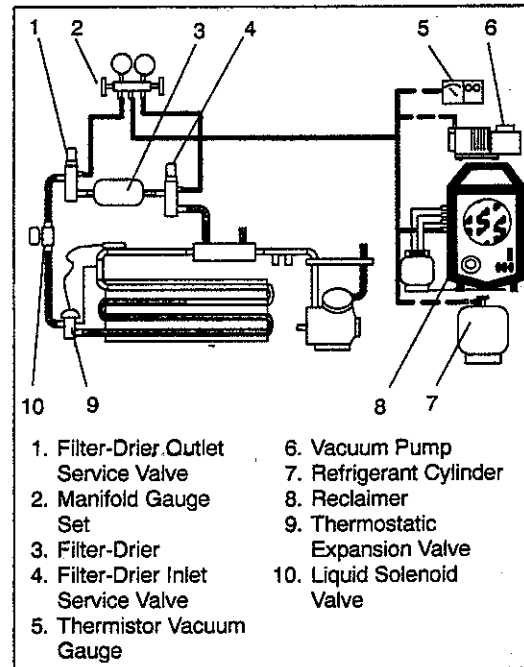

Figure 4-5 Low Side Pump Down Connections
- Install manifold gauge set to the filter-drier inlet service valve. Refer to Figure 4-5.